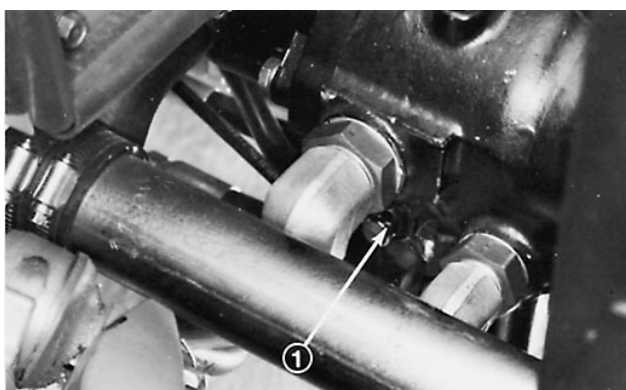

Figure 29
1. The by-pass valve is located on the left side of the pump (Fig. 29). Rotate the valve 1/2 to 1 turn counter-clockwise to open it and allow oil to bypass internally. Because fluid is bypassed, the machine can be moved—slowly—without damaging the transmission.